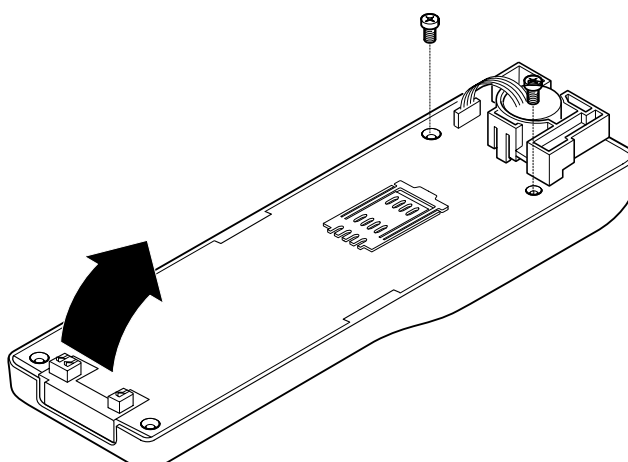

Figure 3: C-assembly removal
- Figure 3 Remove the C-assembly. 2 screws